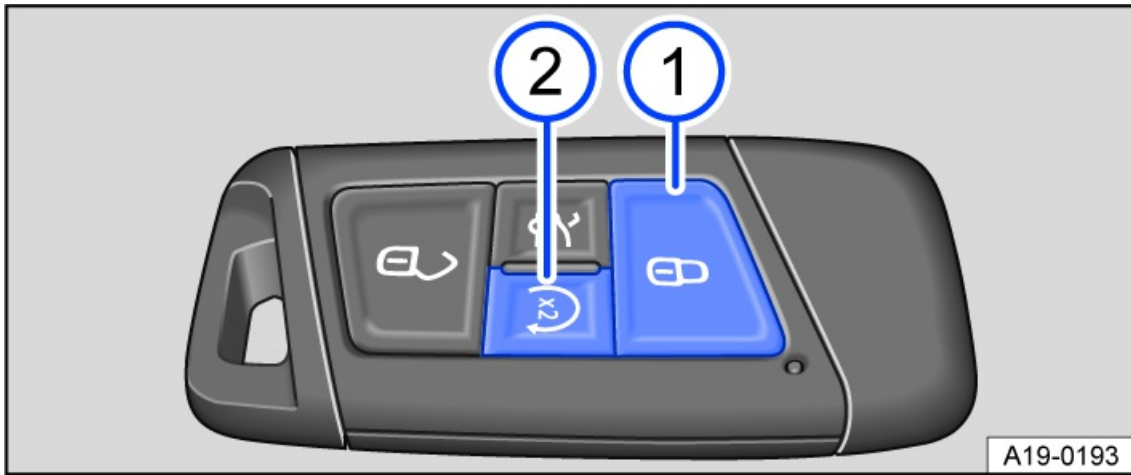

Fig. 117 On the remote control vehicle key: Button for remote start relay function.
1. Press the button (🔒) once *fig. 117*.
2. Press the (x2) button twice *fig. 117*.
1. Press the (x2) button on the remote control vehicle key to switch off the engine *fig. 117*.